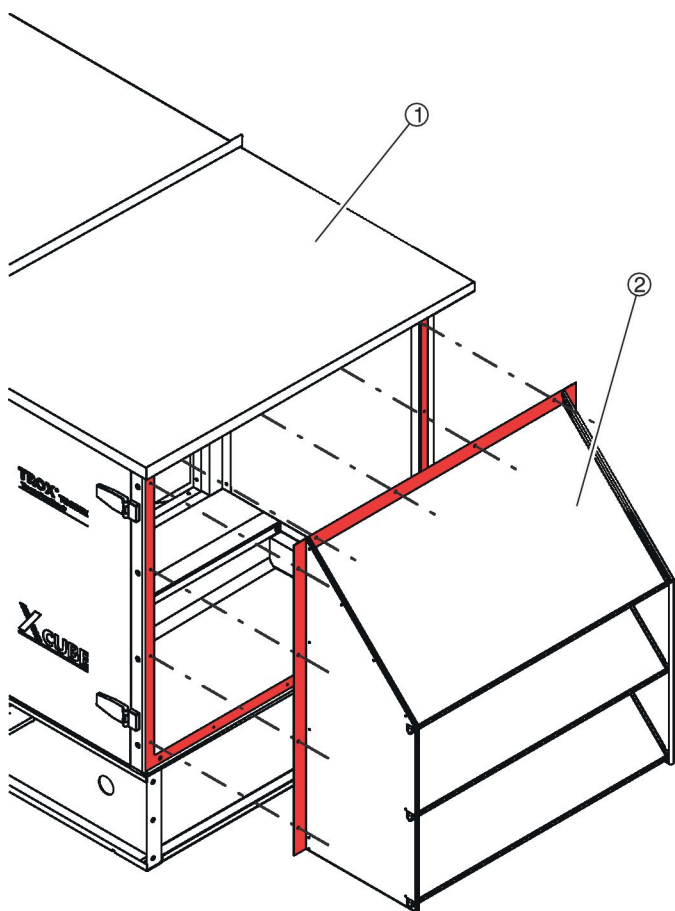

Fig. 19: Positioning the weather hood
4. ▶ Position the weather hood (Fig. 19 /2) precisely on the frame (Fig. 19 /1) so that the screw holes are in a line.